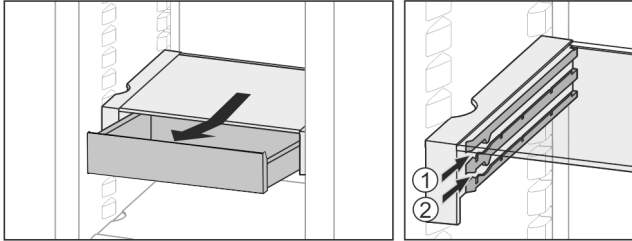

Fig. 20
- ▶ Slide back at the height you want Fig. 20 (1) or Fig. 20 (2).